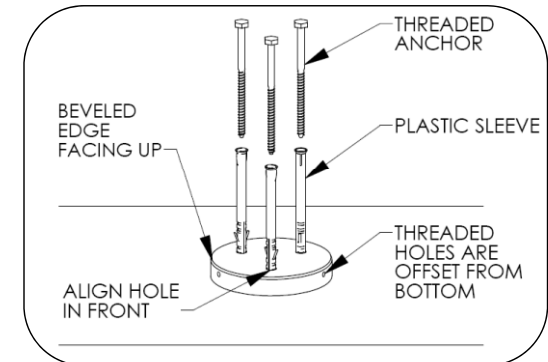

Fig. 4 – Install base plate
4. Set base plate in position, see Fig. 4, and mark hole locations. Move base plate.
6. Install base plate with beveled edge facing up, plastic sleeves and cap screws as shown in Fig. 4.